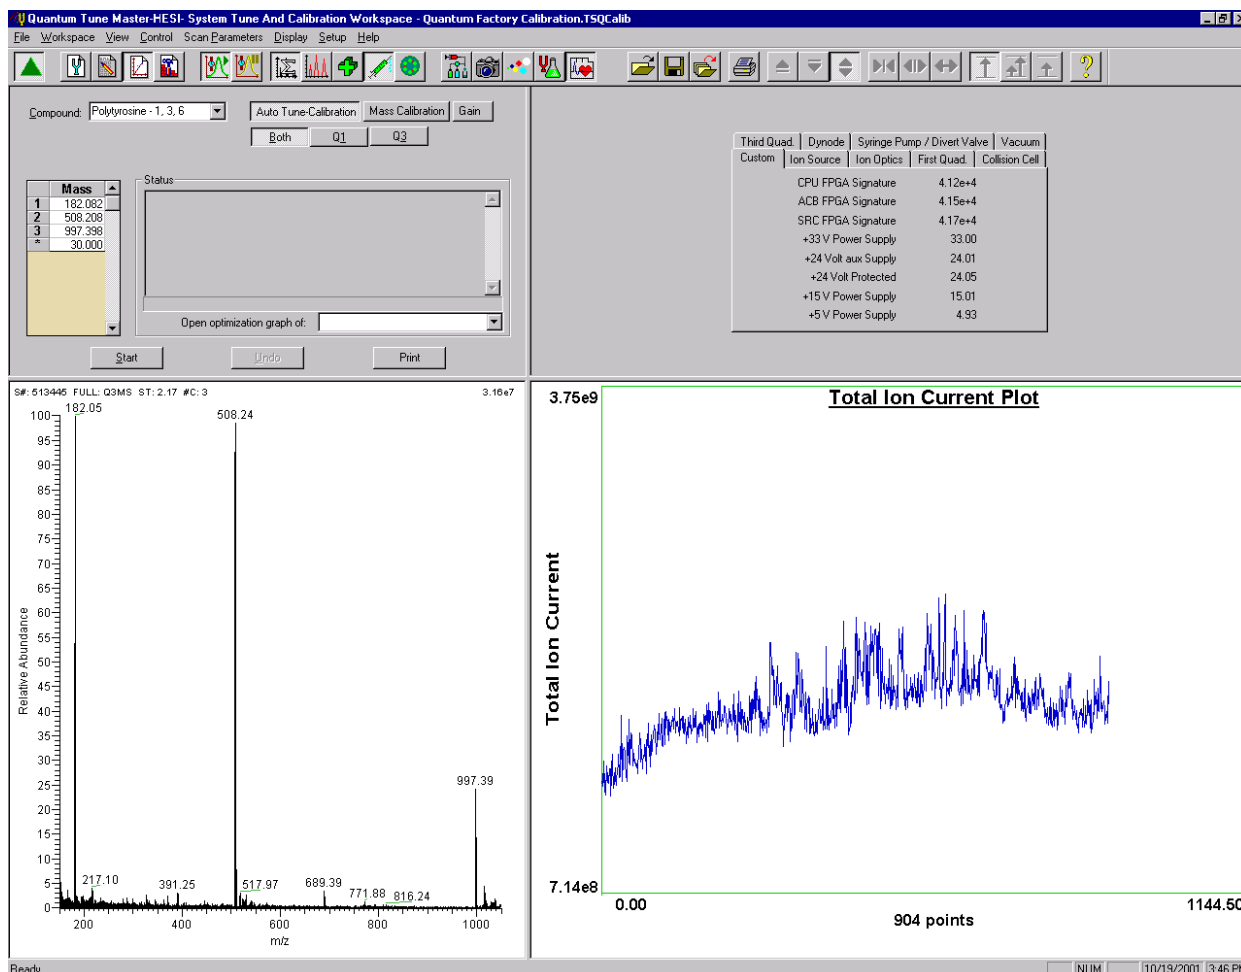

Figure 3-14. System Tune and Calibration workspace, showing polytyrosine signal
1. Click on the System Tune and Calibration Workspace button to display the System Tune and Calibration workspace. See Figure 3-14.